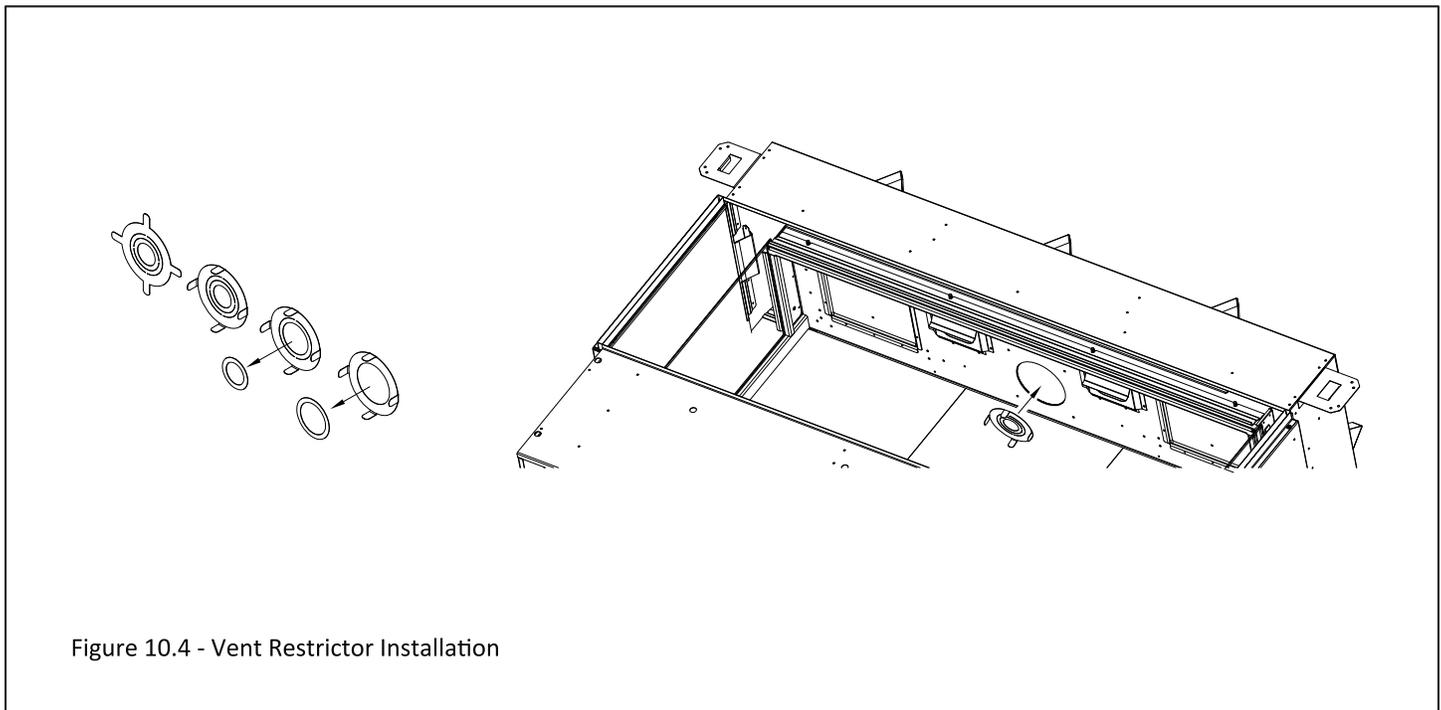

Figure 10.4 - Vent Restrictor Installation
Vertical terminations may display an active, compact flame. If this appearance is not desirable, a restrictor plate may need to be installed or modified after vent termination installation. Access to the vent exit for restriction can be reached through the fireplace ceiling. See Figure 10.4
4. Insert restrictor into the 5” (127mm) exhaust pipe with the tabs pointing towards you, as shown in Figure 10.4.